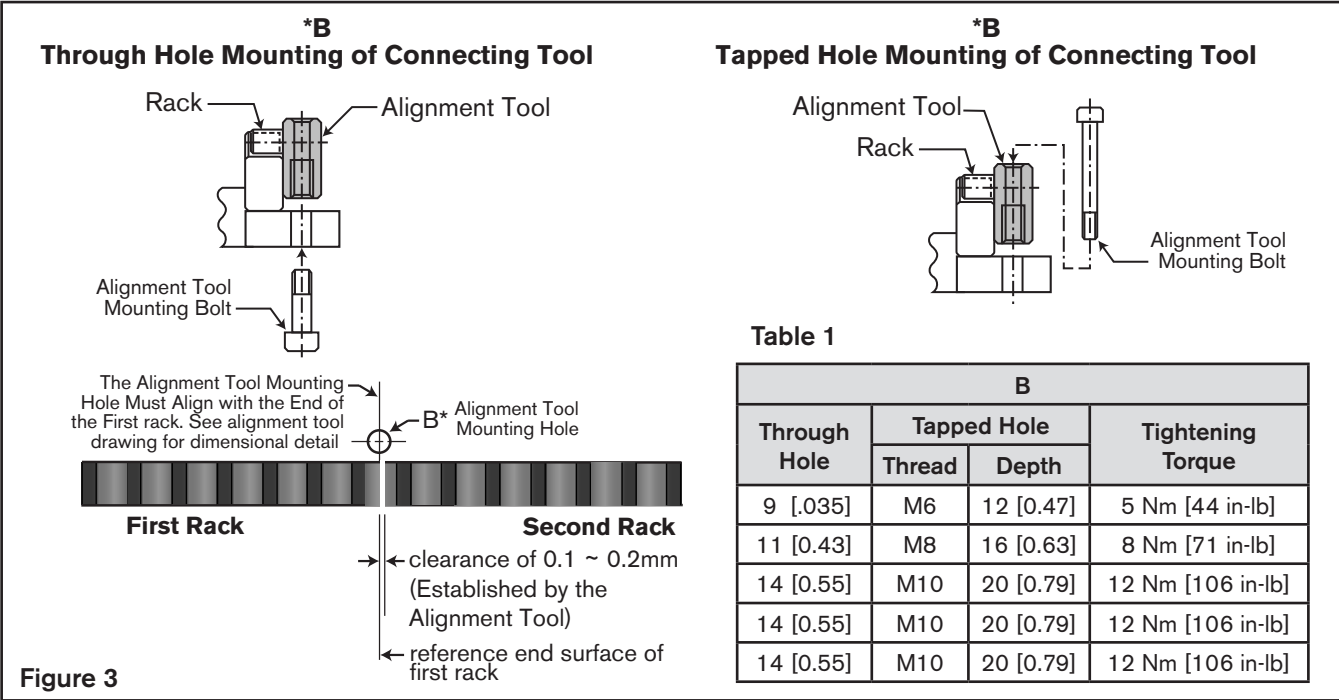

Figure 3
- If joining multiple rack segments a special alignment tool is required and provided by Nexen. The alignment tool ensures proper pinion meshing when crossing rack joints. To use the alignment tool a special mounting hole provision is required in the machine bed off to the side of where the racks meet to temporarily secure the alignment tool. When the adjacent racks are properly positioned, there will be a 0.1 to 0.2 mm gap between them. See figure 3